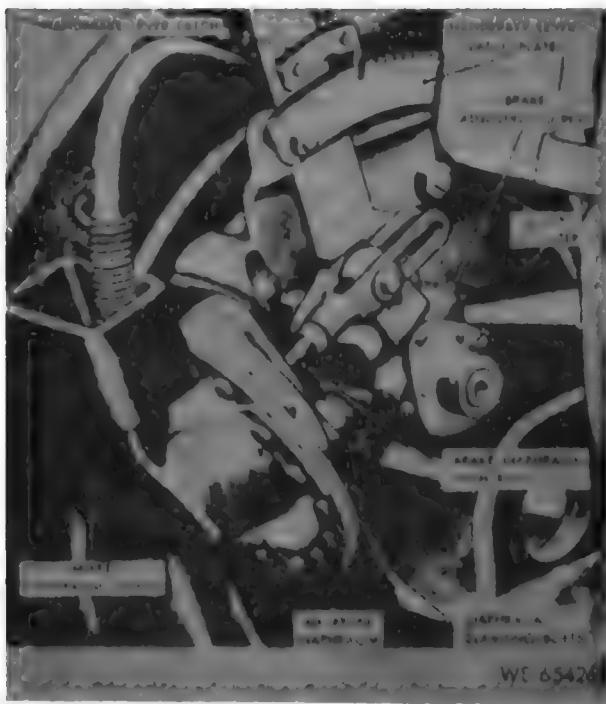
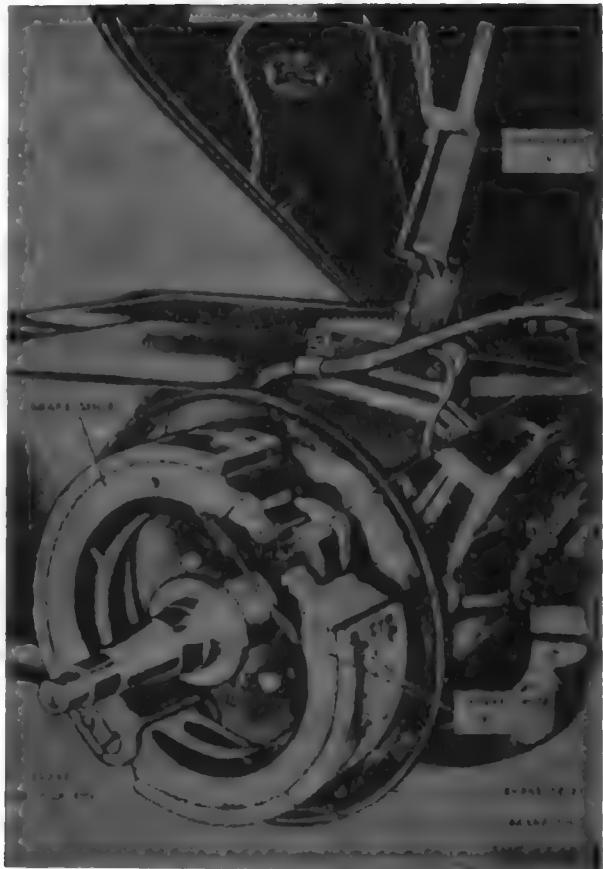

Figure 151. Air brake diaphragm and slack adjuster.
Figure 152. Brake actuating mechanism — internal parts.
g. Air Brake Diaphragms. Two air brake diaphragms (fig. 151), one for each brake, convert the energy of the compressed air into the mechanical force necessary to operate the brake mechanisms. The air hose connection is protected by the brake diaphragm guard.
h. Slack Adjusters. The slack adjusters (fig. 151) serve as levers to connect the brake mechanisms with the air brake diaphragms. They also provide a convenient method of brake adjustment (par. 122e). During braking, the slack adjusters rotate bodily with the brake camshafts (fig. 152) as the brakes are applied or released.
i. Handbrake Levers. A handbrake lever (fig. 151) is provided for each carriage brake. It is pivoted on the brake cam.
shaft just inside the wheel. The handbrake lever is positioned under the slack adjuster so that when the lever is pulled to the rear it lifts the slack adjuster, causing the brake camshaft to rotate and apply the brake. A handbrake lever latch (fig. 151), controlled by the spring-loaded hand grip lever, engages the teeth of the handbrake lever latch plate and retains the handbrake lever in position when the handbrakes are applied. When handbrake latch is positioned in the third notch of rack, brake must be fully engaged.
(1) Test the entire air brake system for air leaks bimonthly, or when a leak is evidenced by weak or intermittent brakes, by applying soapsuds with the system under pressure to all air hoses, air brake hose connectors and other hose connections, air brake hose couplings, air filters, air brake diaphragms, and emergency valve and air tank. Any leak causing a soap bubble of 2-inch diameter in 5 seconds is considered serious; if it cannot be remedied by the methods herein outlined or if a leak is found in any air brake hose, notify ordance maintenance personnel.
(2) Apply soapsuds to the edges of the air brake diaphragms (fig. 151) and around all diaphragm clamping bolts. If a leakage of air is evidenced by the formation of a soap bubble, tighten all clamping bolts in such sequence that successively tightened bolts are positioned on the diaphragm as nearly diagonally from each other as possible. If this fails to stop the leak, notify ordance maintenance personnel.
(3) Test all air brake hose connectors for leakage. If a leak occurs at the joint between the connector body and connector nut, tighten the nut. If this does not correct the leak, notify ordance personnel.
(4) Apply soapsuds to the airbrake hose couplings. If a leak occurs at a coupling and it is securely in position, detach the coupling from the prime mover, remove the air brake hose coupling packing ring (para. 120b) and replace it with a new one.
- (1) Check the travel of the brake diaphragm push rods (fig. 151) monthly by measuring the distance each push rod extends from its air brake diaphragm with the brakes released and with the brakes applied. If the push rod travel is less than three-quarters of an inch, or more than one inch, adjust the brakes.
- (3) Rotate the wheel and, at the same time, turn the brake adjusting screw (fig. 151) on the slack adjuster until the brake stops the wheel from turning. Then back off the adjusting screw until the wheel turns freely.